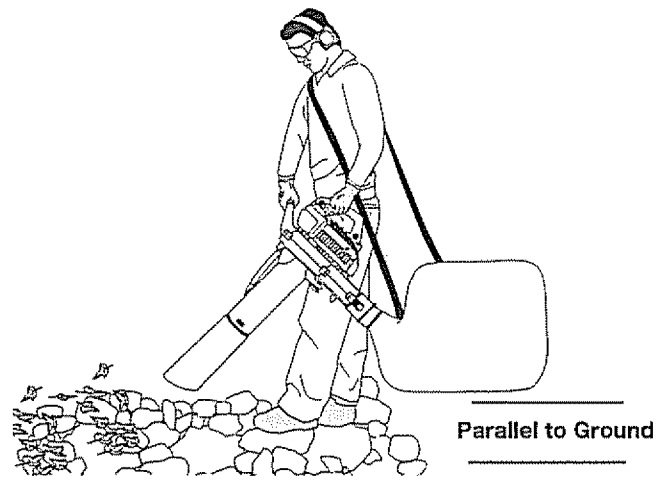

Fig. 7
WARNING - Hot Surface: To prevent serious personal injury when operating the unit as a vacuum, hold the unit to the left side of the body (Fig. 7). The muffler becomes extremely hot during operation and can cause burns.
2. Place the harness over your head and onto your right shoulder. Hold the unit in the operating position to get a proper adjustment (Fig. 7).
3. Make sure the vacuum bag harness is adjusted to allow free flow of air into the vacuum bag elbow. If the bag is kinked, the unit will not perform correctly. The bottom of the bag should be parallel to the ground (Fig. 7).